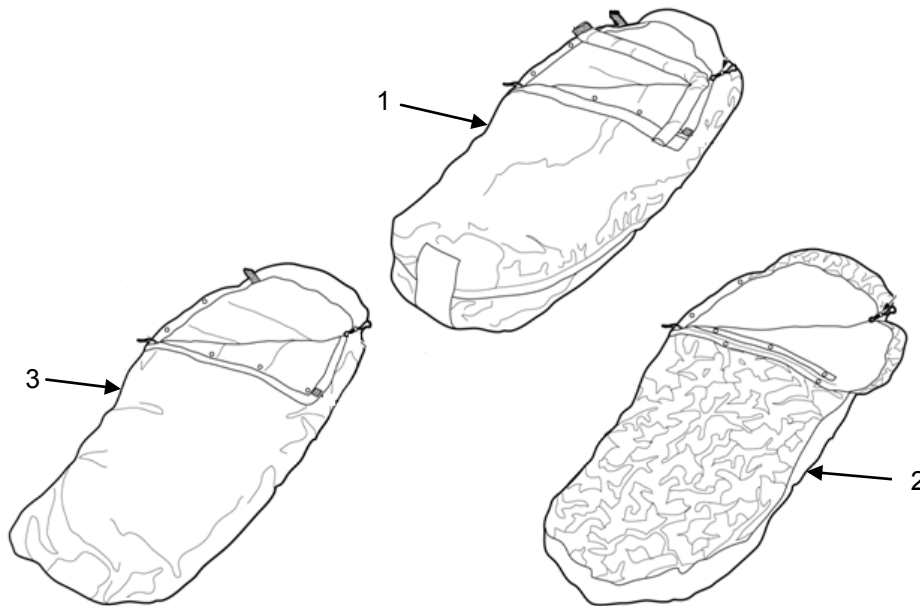

Figure 1. Modular Sleep System.
**Modular Sleep System (MSS) and Accessories.** The MSS (Figure 1) consists of two “mummy-bag” type sleeping bags, the intermediate cold weather sleeping bag (Figure 1, Item 1), and the patrol sleeping bag (Figure 1, Item 3), all constructed of water-resistant, ripstop nylon, a waterproof bivy cover (Figure 1, Item 2), two compression stuff sacks, into which the bags may be placed. Each sleeping bag (Figure 1) may be used separately or may be joined together, with the patrol sleeping bag going inside the intermediate cold weather sleeping bag. The system will protect from -10°F, when used with the layers of the Extended Cold Weather Clothing System (ECWCS).